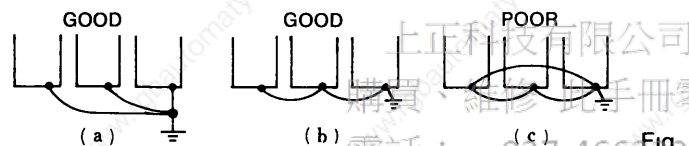

Fig 9 Grounding of Three VS-616HII Units
(1) Ground resistance should be 100Ω or less.
(2) Never ground VS-616HII in common with welding machines, motors, and other large-current electrical equipment, or ground pole. Run the ground lead in a separate conduit from leads for large-current electrical equipment.
(3) Use ground lead listed in Table 3 and make the length as short as possible.
(4) Even when VS-616HII is grounded through its mountings such as channel base or steel plate, be sure to ground VS-616HII using the ground terminal ⑤.
(5) Where several VS-616HII units are used side by side, all the units should preferably be grounded directly to the ground poles. However, connecting all the ground terminals of VS-616HII in parallel, and ground only one of VS-616HII to the ground pole is also permissible (Fig. 9). However, do not form a loop with the ground leads.